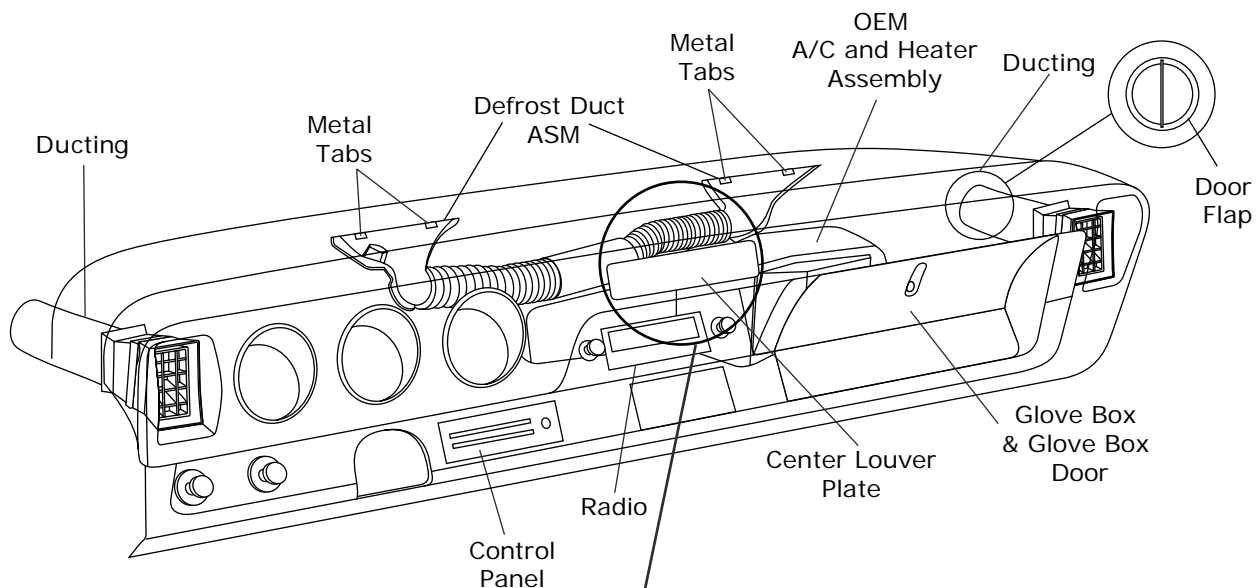

Figure 2
1. Remove glove box door (retain) and glove box (discard) (See Figure 2, below).
4. All ducting from OEM louvers (See Figure 2, below).
5. OEM defrost duct assembly by straightening 4 metal tabs (See Figure 2, below).
6. OEM A/C and heater assembly (discard) (See Figure 2, below).